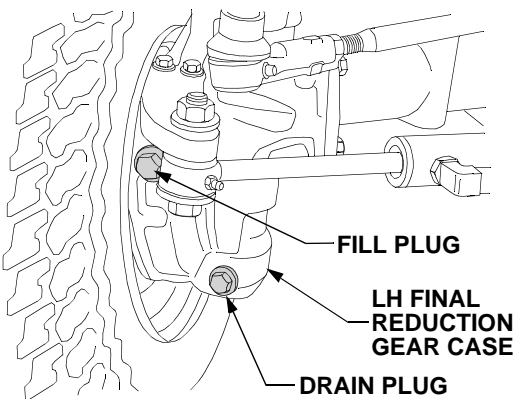

Figure 51
- Remove the fill plug and drain plug from the gear case and drain the oil. See Figure 51. After the oil has drained, reinstall the drain plug.